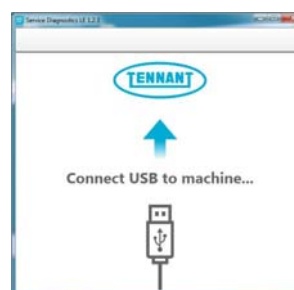

Fig. 15
2. After start up, the following screen will appear (Figure 15).